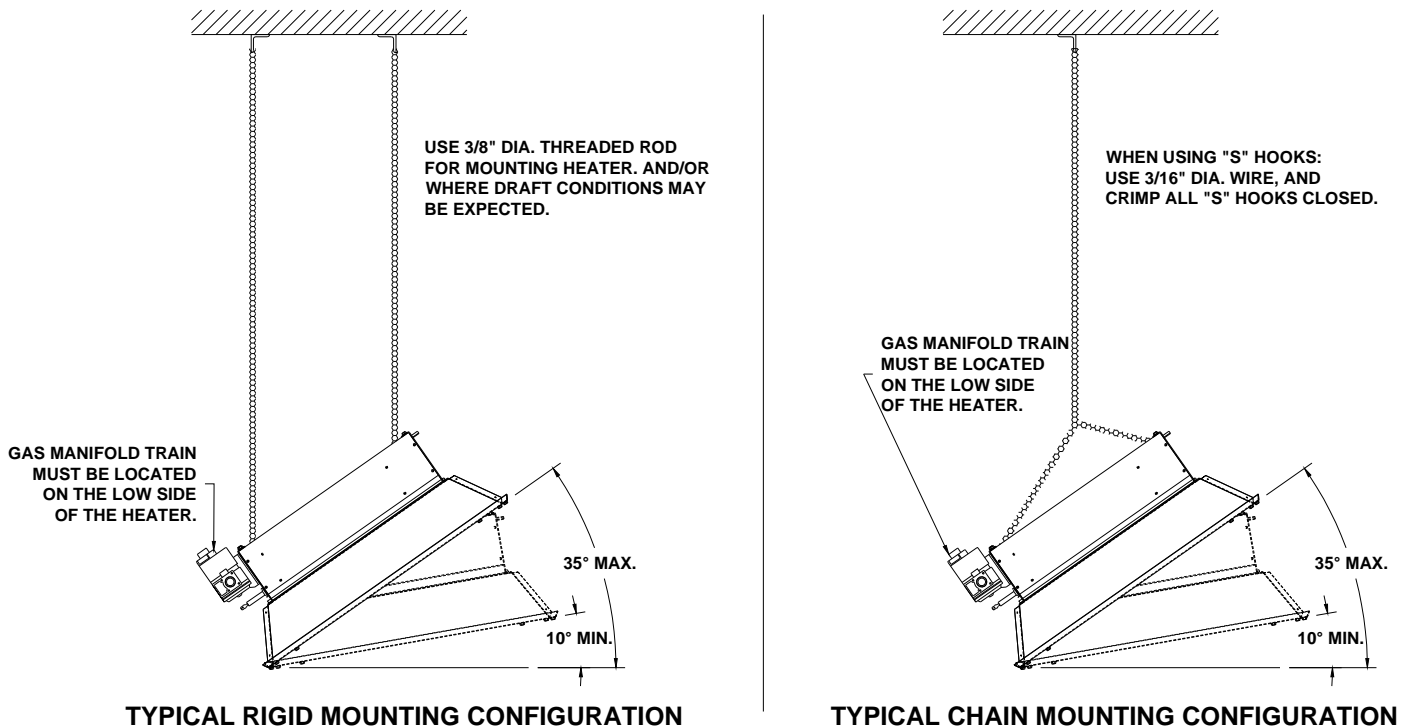

Figure 3: Mounting Configurations
- Figure 3 illustrate typical rigid and chain mounting configurations for the Series S heaters; verify which is permissible by local codes.